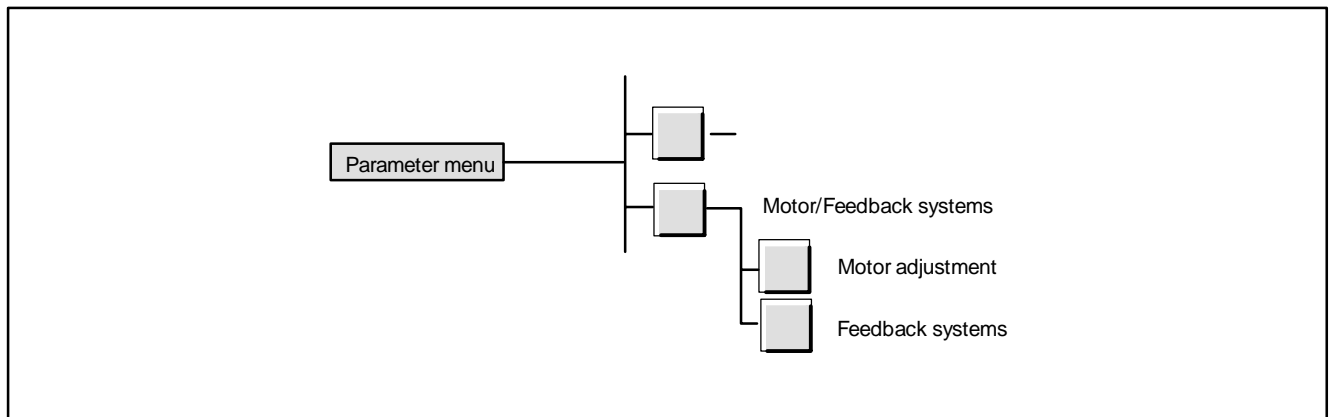

Fig. 5-4 How to find the menus "Motor setting" and "Feedback systems"
- For this change to the parameter menu (see button Fig. 5-4) and select the menu "Motor/feedback system".
Change to the menu "Motor setting" (see Fig. 5-4).